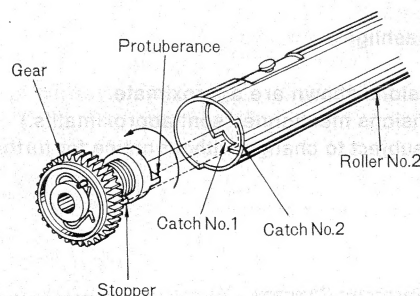

Fig. 6
4. Insert the protuberance of gear in the catch no. 1 of roller no. 2, as shown in fig. 6.
5. Turn the gear one turn in the direction of arrow, then attach the stopper to the catch no. 2 on the roller no. 2, as shown in fig. 6.